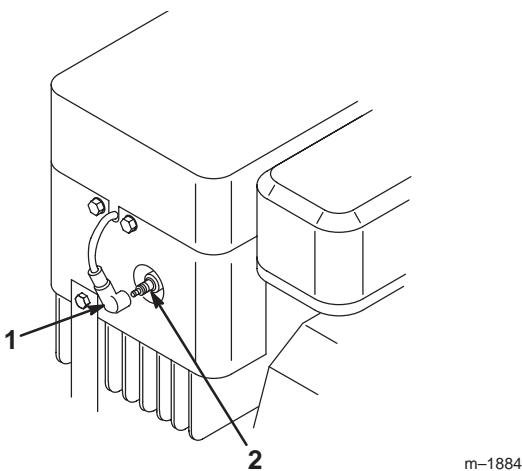

Figure 23
2. Reach under the body of the tractor above the left rear wheel and pull the wire off of the spark plug (Fig. 23). Clean around the spark plug to prevent dirt from falling into the engine and potentially causing damage.
3. Push the wire onto the spark plug (Fig. 23).